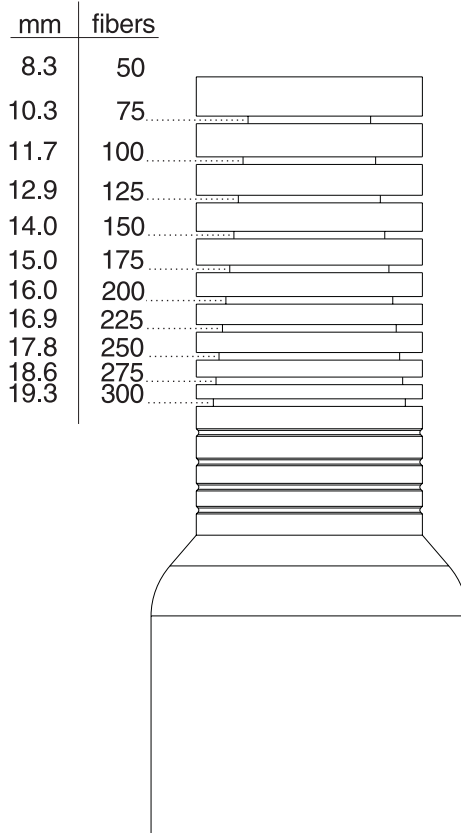

Figure 1: Cutting position for cables over 8.3 mm in diameter
1. If you are installing a cable over 8.3 mm in diameter (50 1 mm fibers), cut the adaptor with a hacksaw at the position shown in Figure 1.